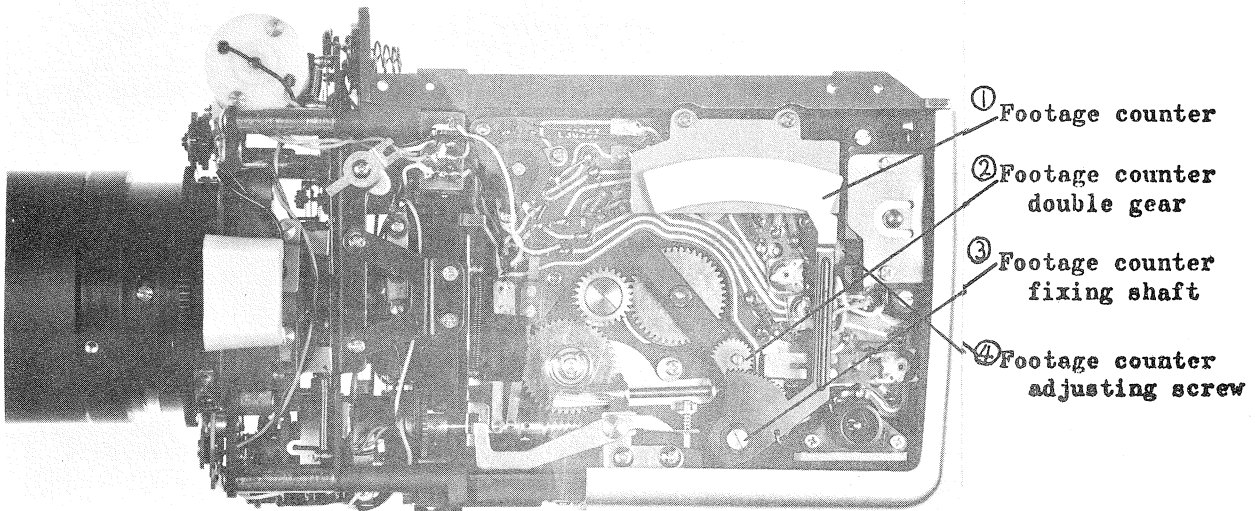

Fig. 48
If the engaging position of the footage counter (Fig. 48 (1)) and the footage counter double gear is bad then the footage counter would be defective.
Start position of the footage counter is adjusted with the adjusting screw which is illustrated in 4 of Fig. 48. This screw can be adjusted when the 1.3V mercury battery is taken off.